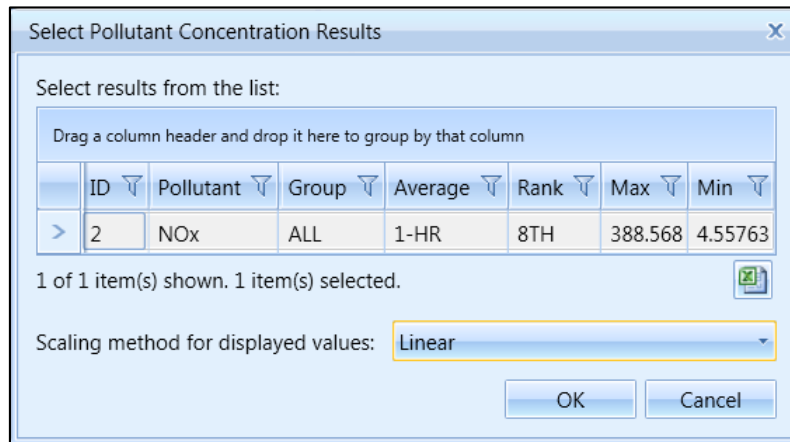

Figure 5-36 Select Pollutant Concentration Results Dialog
3. The *Select Pollutant Concentration Results* dialog (Figure 5-36) is displayed.